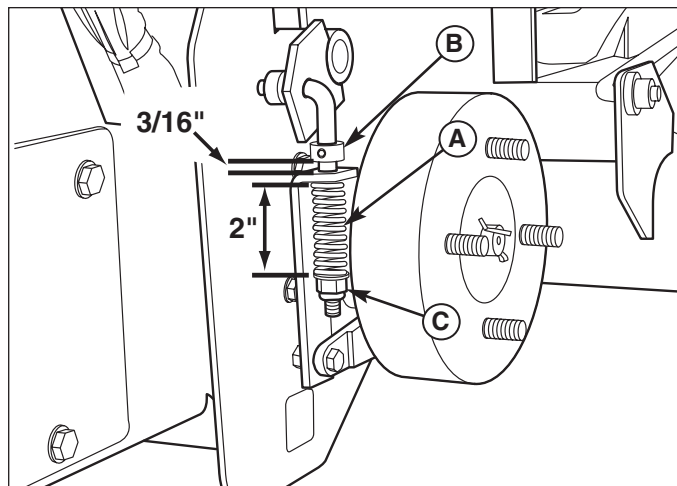

Figure 14. Parking Brake Adjustment
2. Check the brake spring (A, Figure 14) length (both wheels). With the brake engaged the compressed spring length should be 2" (5 cm). If not, adjust the locknut (C) to achieve the compressed spring length of 2" (5 cm).
3. After achieving the correct spring compression, check the set collar gap (B). With the parking brake engaged, the set collar gap should be 3/16" (5 mm). If not, loosen the set collar screw and move the collar to the correct position.